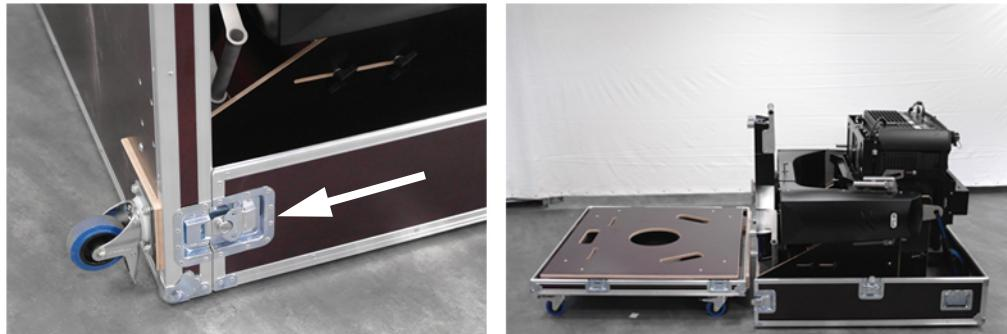

Figure 4-28 Remove Flight Case Base
5. Undo latches on flight case and separate the base. (Figure 4-28)